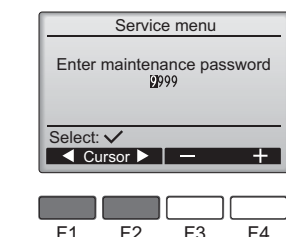

Fig. 6-2
① Select "Service" from the Main menu, and press the [SELECT] button.
② When the Service menu is selected, a window will appear asking for the password. (Fig. 6-2)